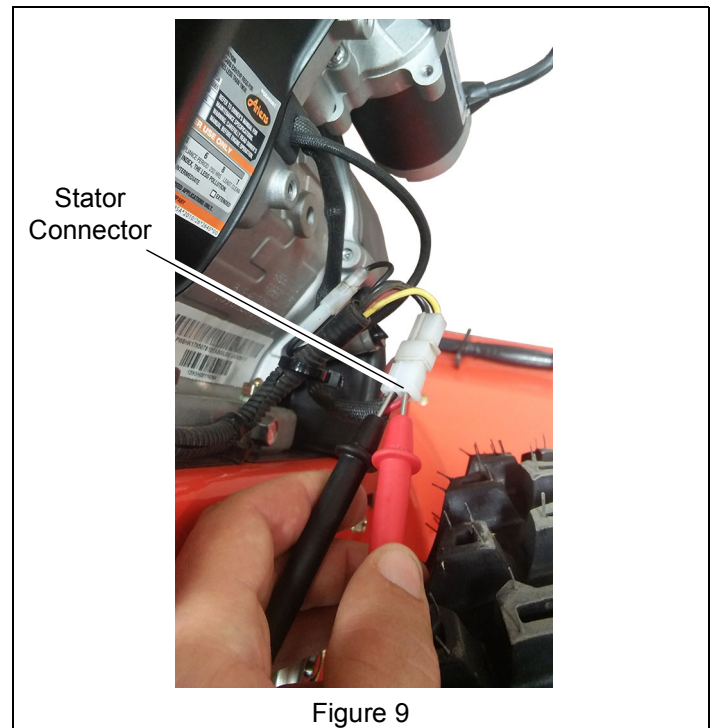

Figure 9
5. Back probe the engine stator output connector. See Figure 9.
If stator output measures over 14 V AC, replace stator. If output is within range, advance to step 3. See Figure 9.
3. Back probe the engine stator output connector. See Figure 9.